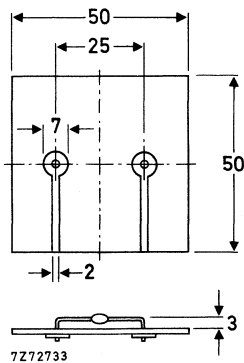

Fig. 2 Mounted on a printed-circuit board.
2. Thermal resistance from junction to ambient; device mounted on an 1.5 mm thick epoxy-glass printed-circuit board; Cu-thickness $\geq 40\ \mu\text{m}$; Fig. 2 (see Thermal Model)